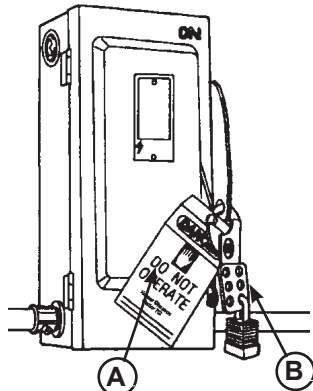

Figure 24
When working with electrical or electronic controls, make sure that the power source has been tagged (A) and locked out (B) according to OSHA regulations and approved local electrical codes (see Figure 24).